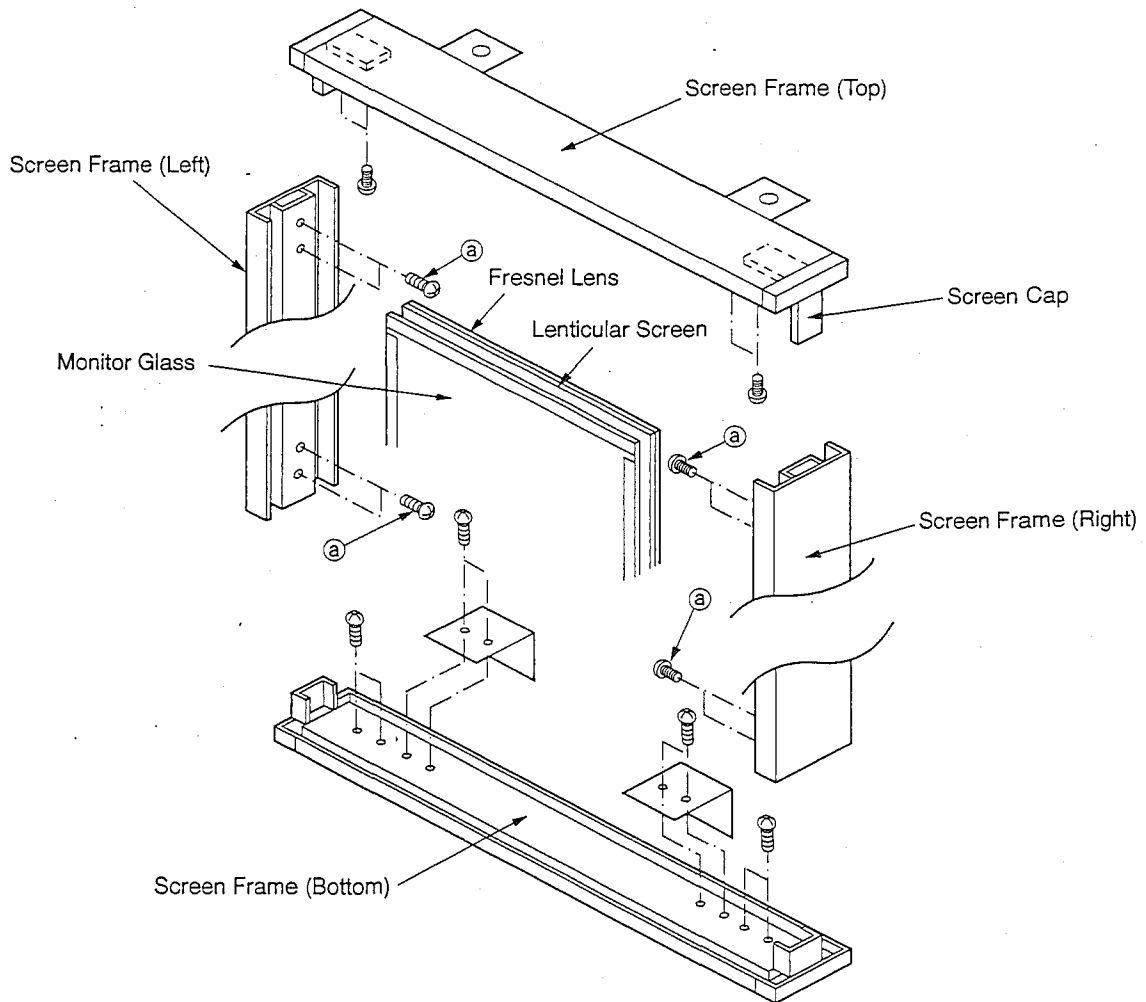

Fig. 4-1
2. Remove the Lenticular Screen, Fresnel Lens and Monitor Glass. (Fig. 4-1)
5. Install 8 screws @ retaining the Screen Frame. (Fig. 4-1)